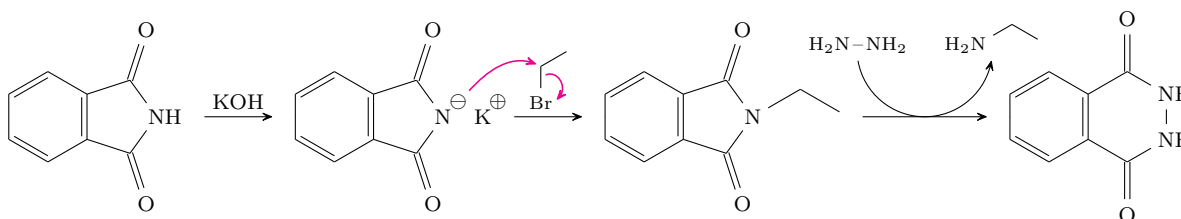

Figure 3.14: Gabriel synthesis.
- As in the Gabriel synthesis (see Figure 3.14), this secondary amide does not react further because its nitrogen lone pair is tied up in conjugation with the carbonyl.